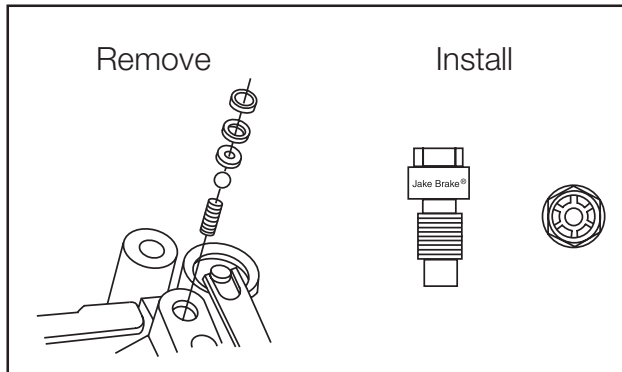

Figure 1
1. Remove the solenoid wire (13) from the spacer and the solenoid. Discard solenoid wire.
3. Hold down the control valve cover while removing the retaining ring (6). Remove and discard all control valve parts (1-6). A magnet may be required to remove the control valve.
4. Hold down accumulator cover (15) while removing the retaining ring (16). Remove all accumulator components. Retain only the accumulator piston, discard all other components.
5. Remove the reset screws (17) and reset screw lock nuts. Discard the reset screws. Retain the lock nuts for use during re-assembly.
6. Turn the housing upside down. Remove hex head cap screw (11), washer (5), and flat spring (10). These parts may be discarded. Remove master piston and inspect for wear or damage. Retain for later installation.
7. Model 690 engine brakes were manufactured with a check valve in the housing. A new oil supply screw was introduced in May 2000, which eliminated these components. If the check valve assembly is still in the housing, remove the assembly components as shown in Fig. 1 and discard.